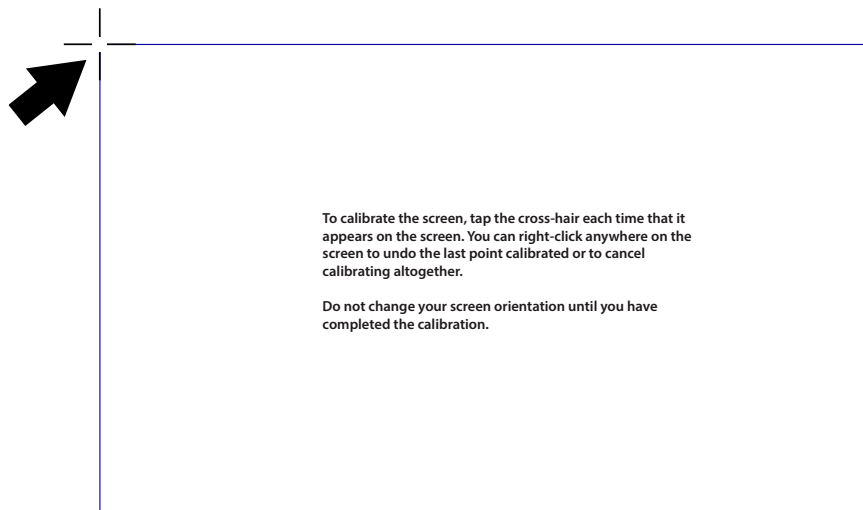

Figure 14-4 Calibrating the Touch Screen
The Calibration screen is displayed (Figure 14-4).
4. Using the stylus, follow the screen prompts and tap on the center of the cross-hairs as they appear at each corner on the screen (Figure 14-4).